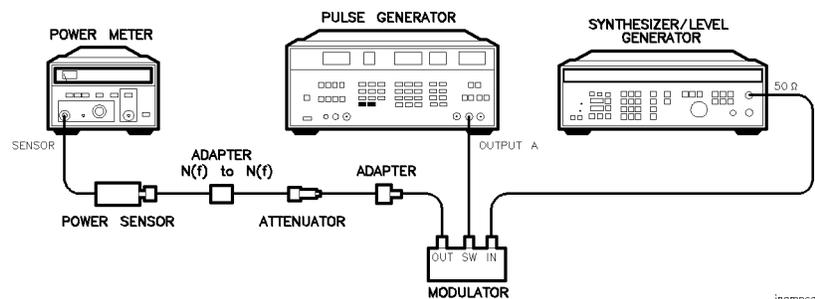

Figure 2-20. Input Amplitude Calibration Test Setup
2. Connect the equipment as shown in Figure 2-20.